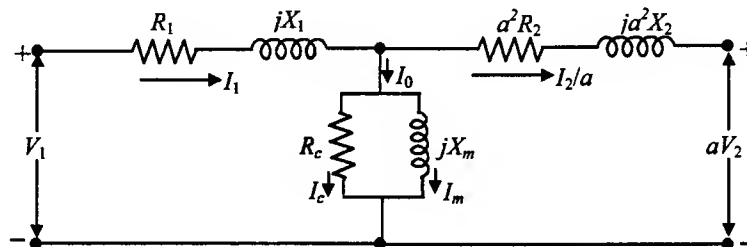

Fig. 1. Transformer equivalent circuit referred to the primary.
- 20 1. (a) The parameters of the equivalent circuit of the 150-kVA, 2,400-V/240-V transformer shown in Fig. 1 are $R_1=0.2\ \Omega$, $R_2=0.002\ \Omega$, $X_1=0.45\ \Omega$, $X_2=0.0045\ \Omega$, $R_c=10\ \text{k}\Omega$ and $X_m=1.55\ \text{k}\Omega$. This equivalent circuit is referred to the primary. Determine the